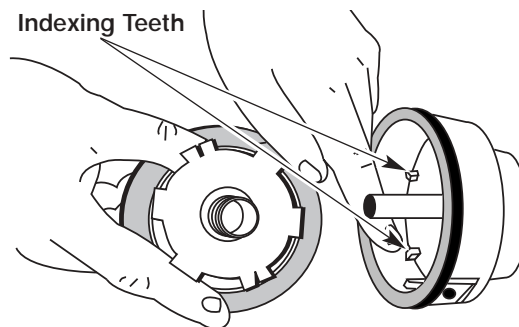

FIGURE 14
5. Check the indexing teeth on the inner reel and outer spool for wear, Figure 14. If necessary, remove burrs or replace the reel and spool.